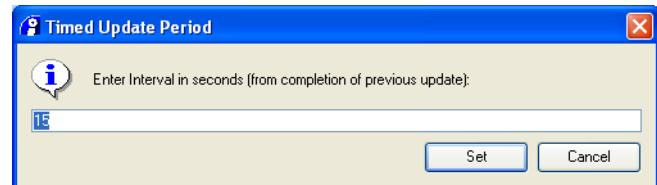

Figure 13-38 Timed Update Period dialog box
3. Select **Timed Update Period...** from the context menu to display the Timed Update Period dialog box. Figure 13-38 shows an example: